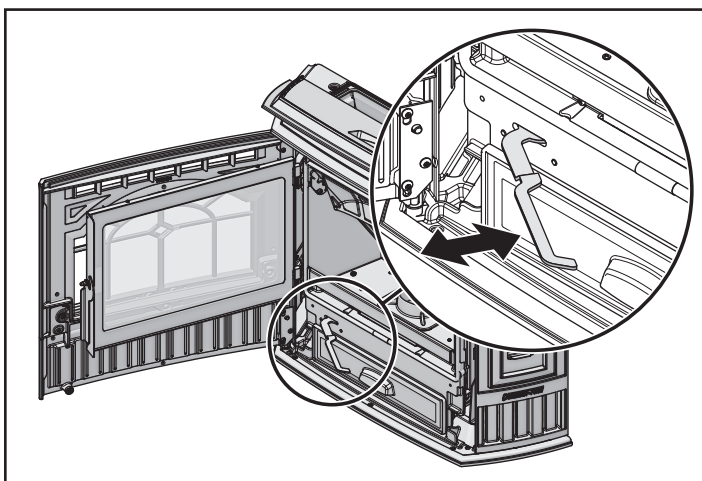

Figure 16.2
- Pull fire pot floor cleaning lever two times until the ash falls into the ash pan below. **Figure 16.2**